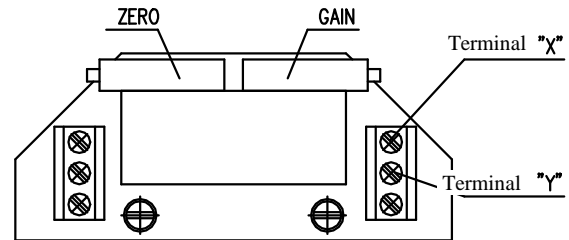

Fig. 7
4.4.2 EPV – 3-wire version (Fig. 7,7a)
- Adjust the resistive transmitter according to the previous chapter. The resistance is to be metered on the terminals X-Y (Fig. 7,7a). The used transmitter resistance is 2000W or 100 W.